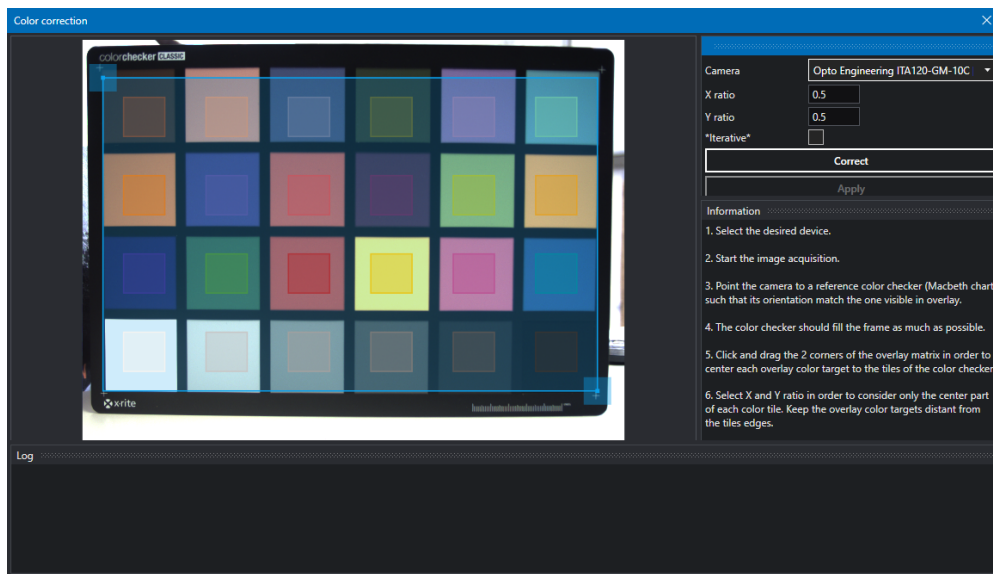

Figure 27: For optimal results, make sure to align the wizard color mask to the Macbeth color chart tiles.
5. The color checker should fill the frame as much as possible (Fig.27).